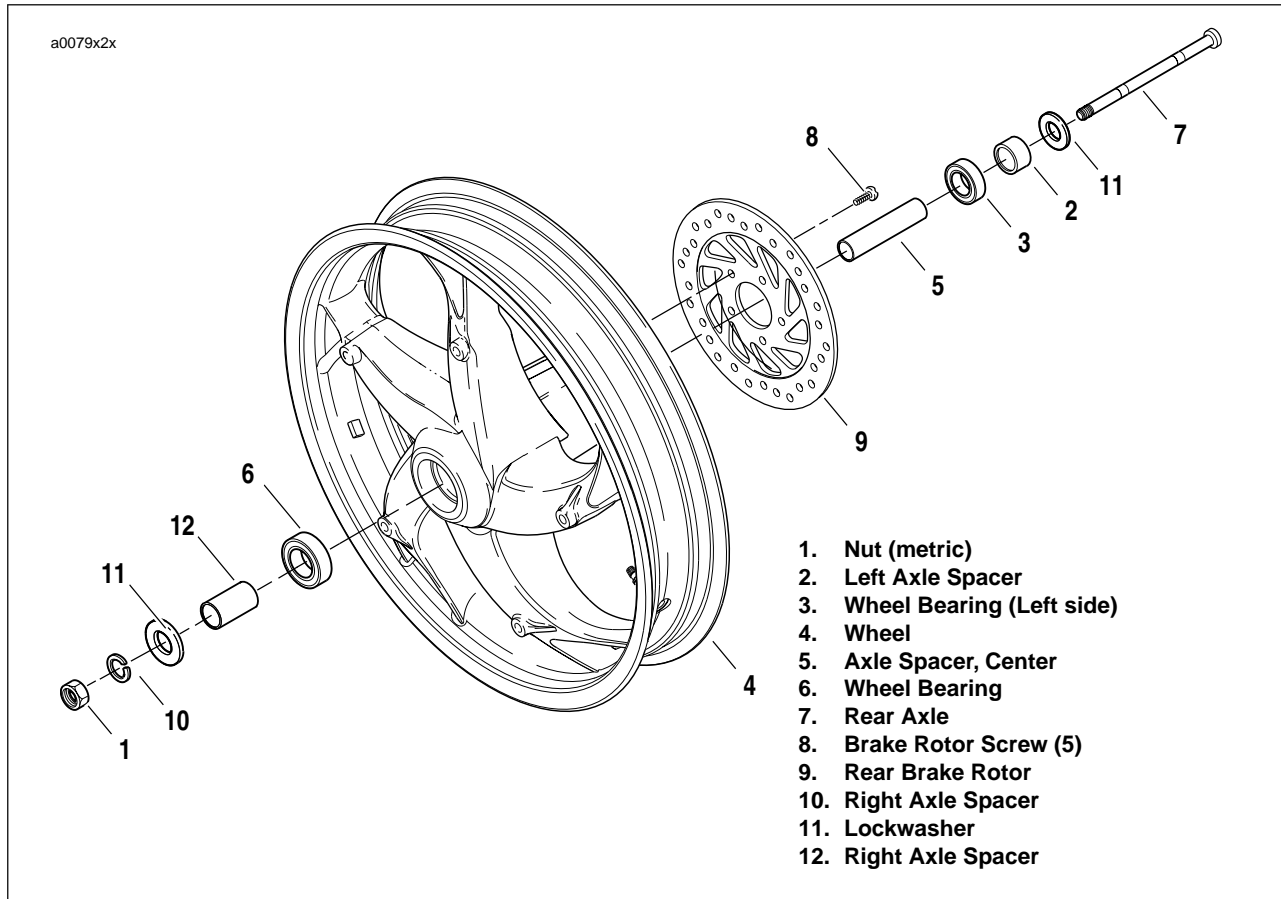

Figure 2-9. Rear Wheel Assembly
5. See Figure 2-9. Install brake rotor (9) to wheel.
- b. Apply **LOCTITE THREADLOCKER 272** (red) to threads of each of the five T40 TORX screws (8).
- c. Install rotor (9) on wheel hub. Tighten TORX screws in criss-cross pattern to 24-27 ft-lbs (32.5-36.6 Nm).